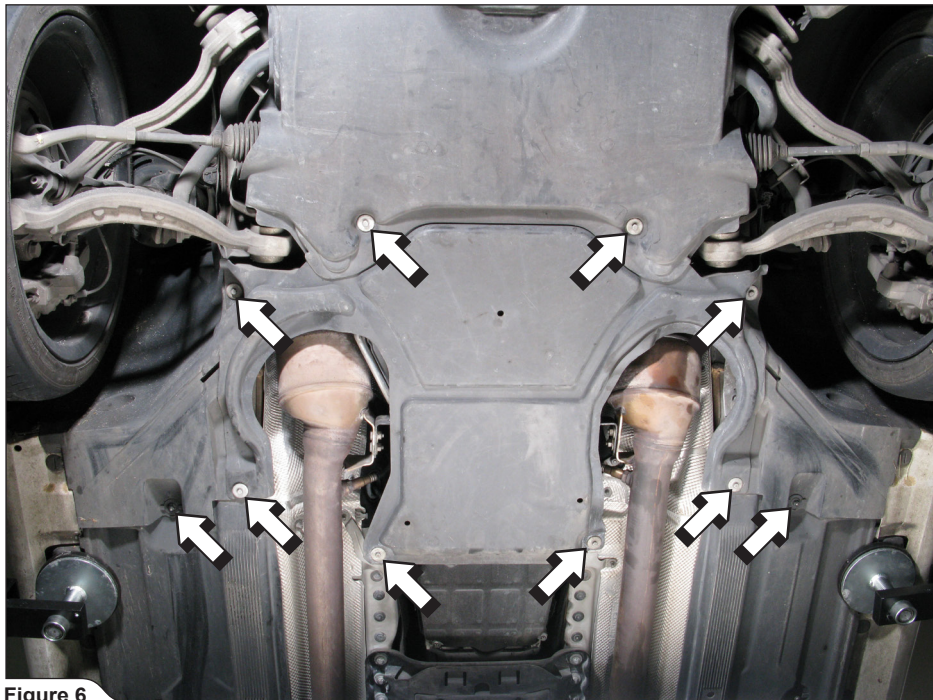

Figure 6
5. **For Evolution only:** unscrew marked bolts and nuts. Remove the engine panel off the vehicle (Figure 6).